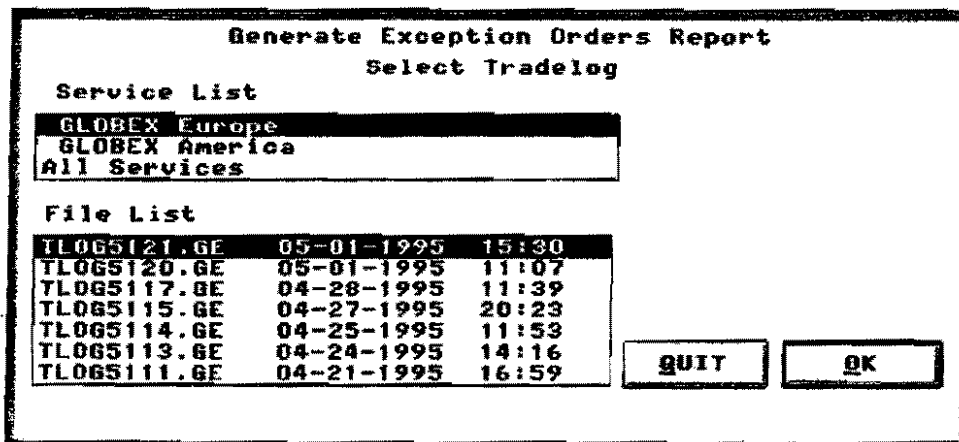

Figure 12.14 Generate Exception Orders Report Dialog Box
1. Select **Exception Orders** in the Reports menu to display the dialog box shown in Figure 12.14. The highest priority Service is selected, as is the most recent of seven tradelog files displayed in the list. (Tradelog file-names are explained in Section 12.4.2.)